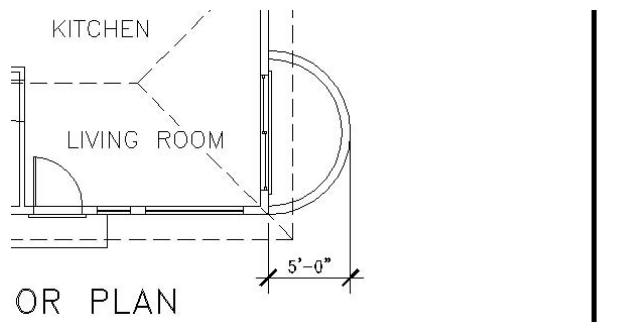

FIGURE 11.22: The horizontal balcony dimension
4. When the dimension appears, move it a couple of feet below the bottom roof line and place it there (see Figure 11.22).